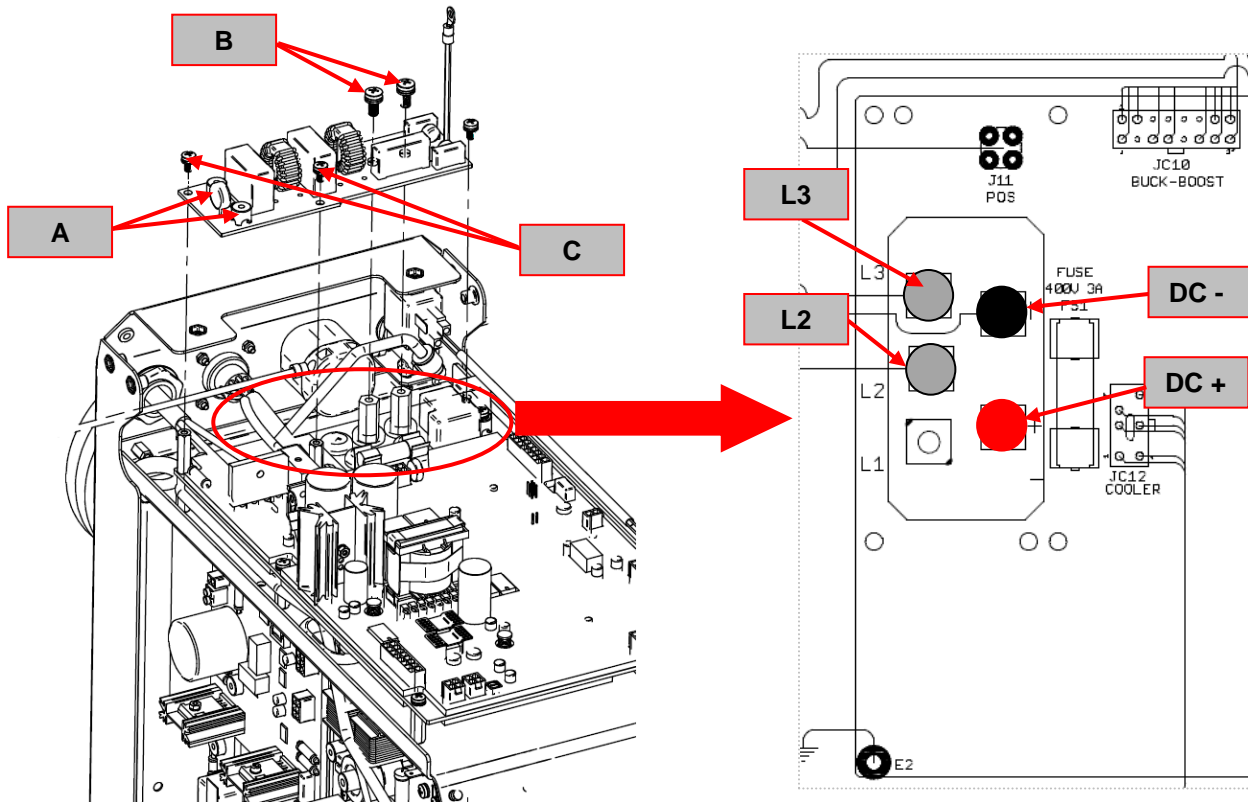

Figure 3 – W05X1665-1 Input Rectifier Bridge location and Test
3. Locate the EMI Filter Board. Remove the screws **A, B & C** and remove the EMI Filter board. See **Figure 3**.
4. Using the multimeter in Diode mode, locate the Input Rectifier Bridge as shown on **Figure 3**.
5. Perform the tests as detailed in **Test table 3**. Refer to **Figure 3** for terminals locations.